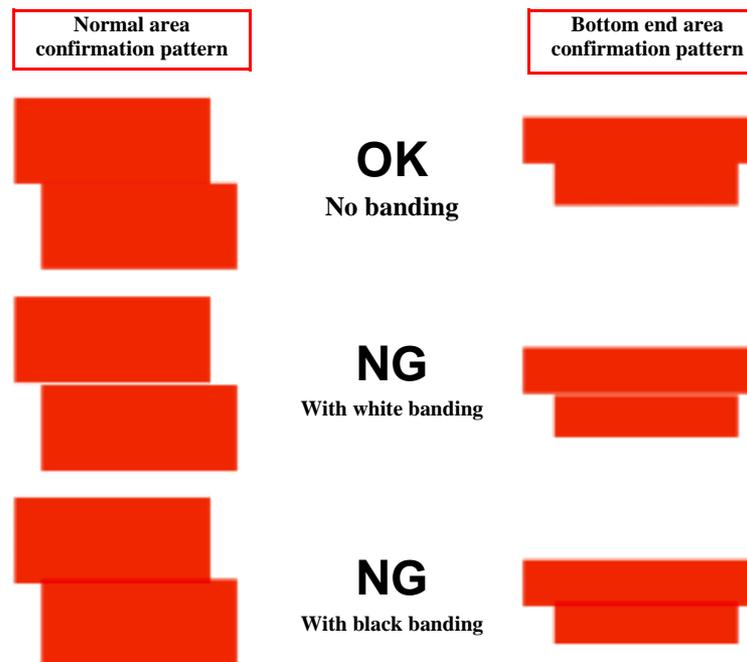

Figure 5-12. Judging the PFP Confirmation Patterns
- 7. By consulting Fig. 5-12, check that all the printed confirmation patterns are free from banding.